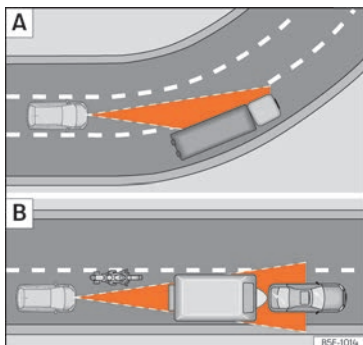

Fig. 106 [A] Vehicle on a bend. [B] Motorcyclist ahead, out of range of the radar sensor.
The ACC may not detect the vehicle in front on a curve, or may regulate the distance from vehicles in other lanes >>> Fig. 106 [A].
- Vehicles that are not aligned while driving or that are outside the sensor's detection area, such as motorcycles >>> Fig. 106 [B].